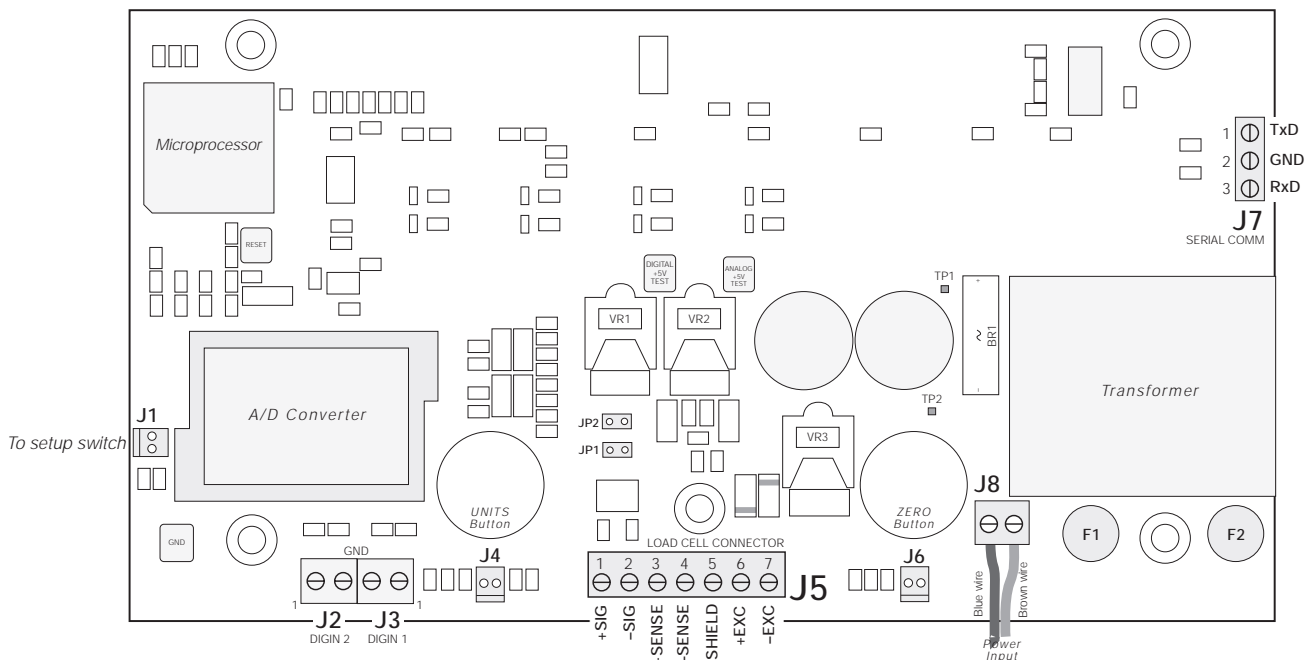

Figure 6-2. IQ plus 210 CPU and Power Supply Board
Wire the load cell cable to connector J5 as shown in Table 6-1. If using 6-wire load cell cable (with sense wires), remove jumpers JP1 and JP2 (see Figure 6-2). For 4-wire installation, leave jumpers JP1 and JP2 on.
2. Remove connections to J5 (load cell cable), J7 (serial communications), J2 and J3 (digital inputs), J4 and J6 (piezo button inputs), and J1 (setup switch). Remove blue and brown power input wires at J8. See Figure 6-2 on page 20 for connector locations.